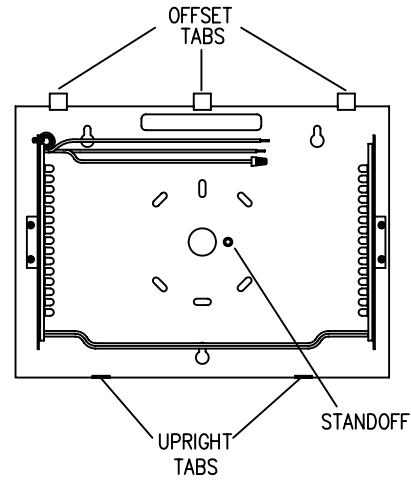
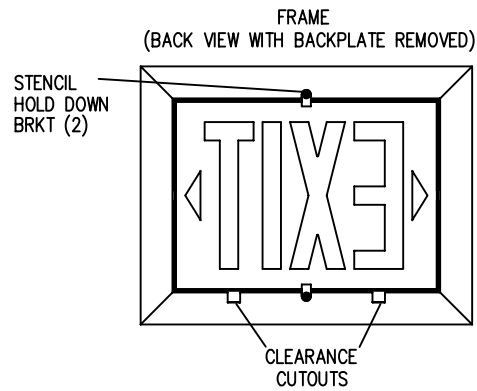

FIGURE 1
FIGURE 2
1. Remove (2) screws from frame and separate from backplate.
2. Stencil may now be removed from frame assembly to knockout required arrow(s). (See figure 2)
6. Place frame assembly over backplate and align (2) clearance cutouts in frame (see figure 2) with (2) upright tabs of the backplate (see figure 1). Slide frame upwards until the frame clears the (3) offset tabs at the top of the backplate. Then slide frame down locking in the frame to the (3) offset tabs. Frame should now sit flush. Attach (2) screws in bottom side of frame assembly to upright tabs of backplate.